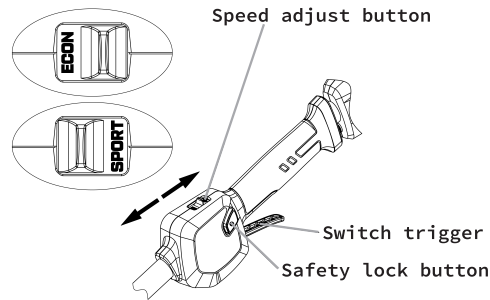

Fig.6
2. Press down the safety lock button and then depress the switch trigger to turn on the trimmer. (Fig.6)
2. Push the "SPORT" button for high speed use and to the "ECON" for low speed. (Fig.6)